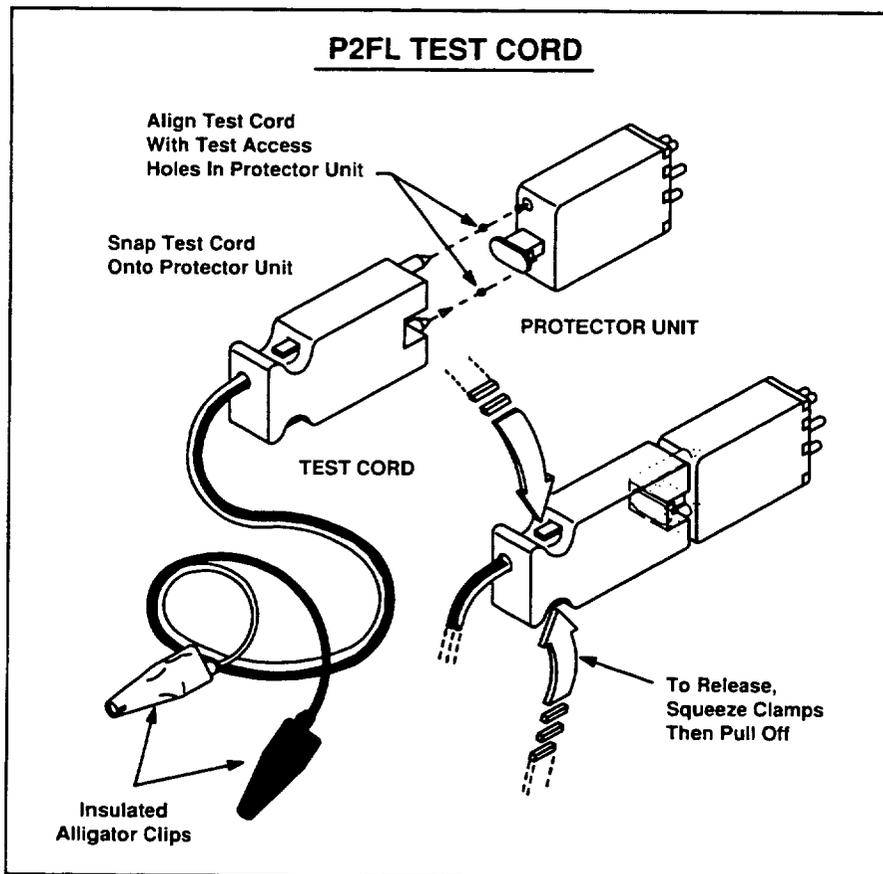

Figure 31. Mounting the P2FL Test Cord on Protector Unit
13.21 The P2FL test cord (Figure 31) is used to short the tip and ring or to ground the tip and/or ring of an individual cable pair by inserting the plug end into the test points of a 4C-type protector unit on the 307-type connector.